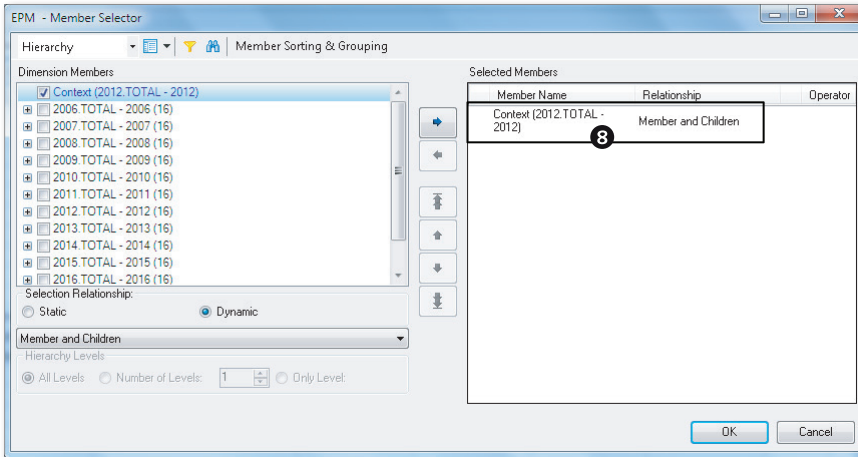

Figure 5.12 EPM Member Selections for Report—Part D
6. When you select the time dimension in the column, you will see that the report will display the **MEMBER AND CHILDREN** of the member selected for Time as displayed in the EPM CONTEXT pane. We will leave this default selection unchanged (Figure 5.12, ⑧).